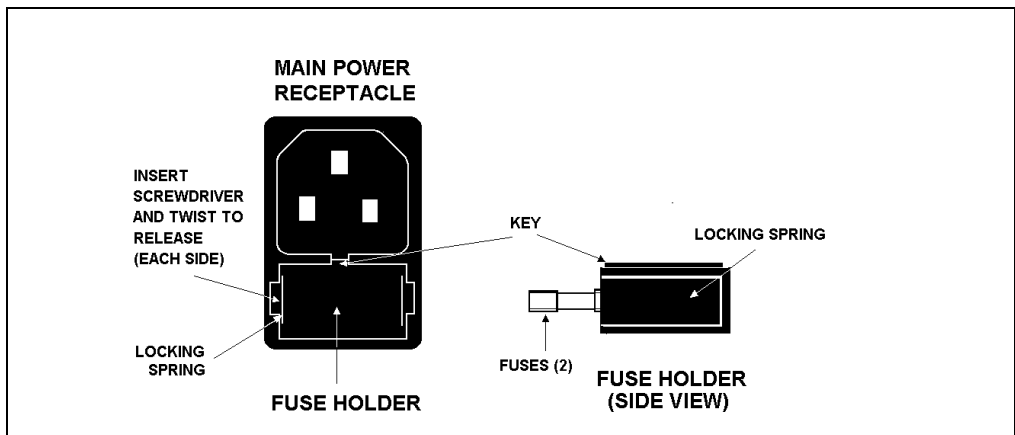

Figure 5-8. Main Power Fuse Holder
2. The fuse holder is part of the main power receptacle on the rear panel (see Figure 5-8). Note the recessed lock located on each side of the fuse holder. Using a small screwdriver, push each lock toward the center to release it. When both locks are released and the fuse holder pops out slightly, pull the fuse holder straight out of its compartment.